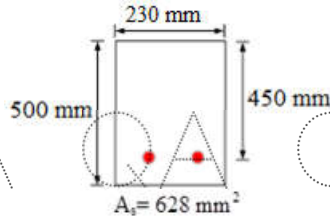

Figure 1
- Determine whether the section shown in Figure 1 (dimensions are in mm) can withstand a factored moment of 100 kN-m. Use M30 grade concrete and Fe-415 steel. [6+6]